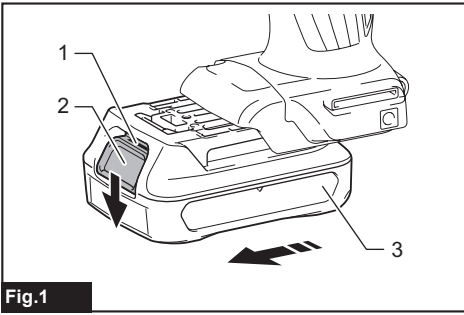

Fig.1
► **Fig.1:** 1. Red indicator 2. Button 3. Battery cartridge